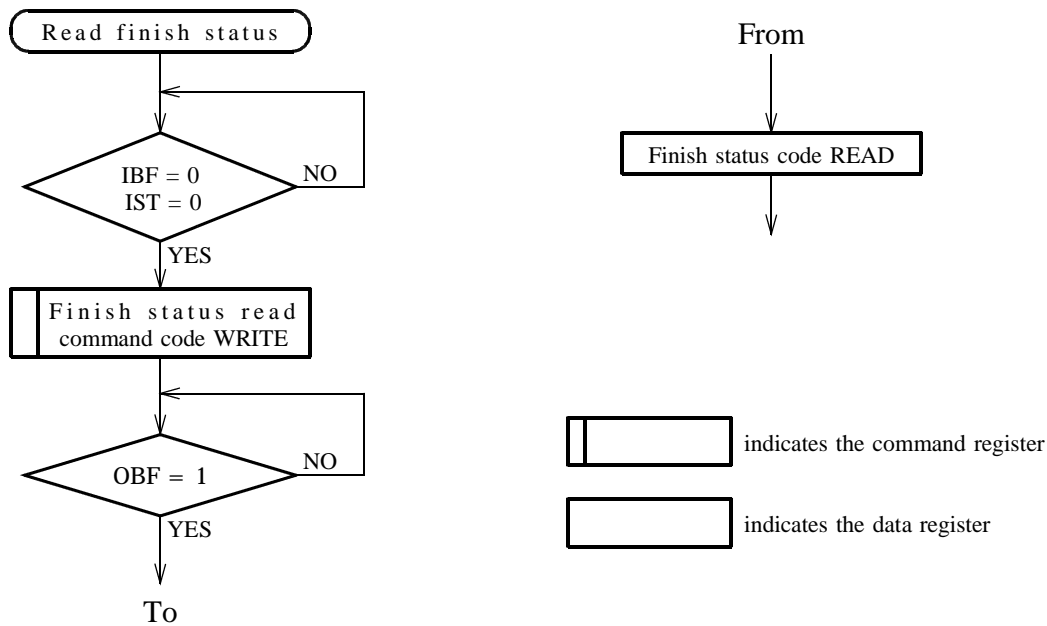

Fig. 3-42 (Flow chart of finish status read)
**Fig. 3-42** is a flow chart indicating the flow of issue of finish status read command.